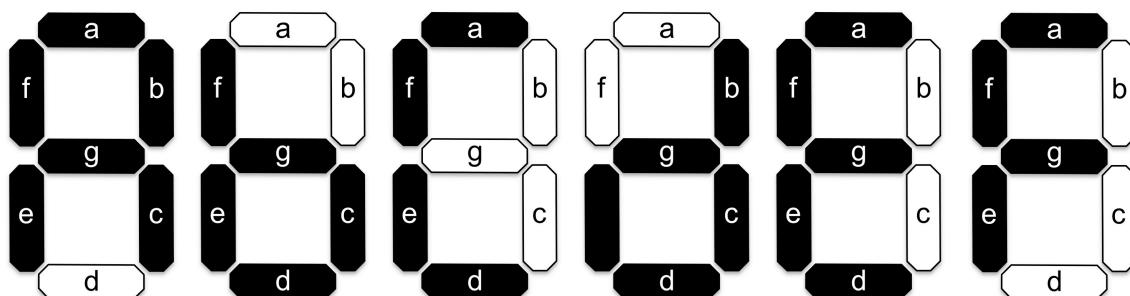

Figure 5.3: Seven segment patterns for the digits A..F
- c) Extend the design to give a full decode of all the possible input patterns to hexadecimal digits (i.e. 0-9 and A-F). The usual patterns for the additional ‘numbers’ are shown in figure 5.3.